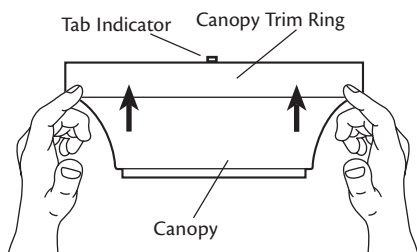

Figure 21 - Removing the canopy trim ring
- Locate the tab indicators, small bumps on top of tabs. Refer to Figure 21.
- To remove the canopy trim ring, press firmly on opposite sides of the ring towards the canopy as shown in Figure 21. The tabs will flex out releasing the trim ring from the canopy.